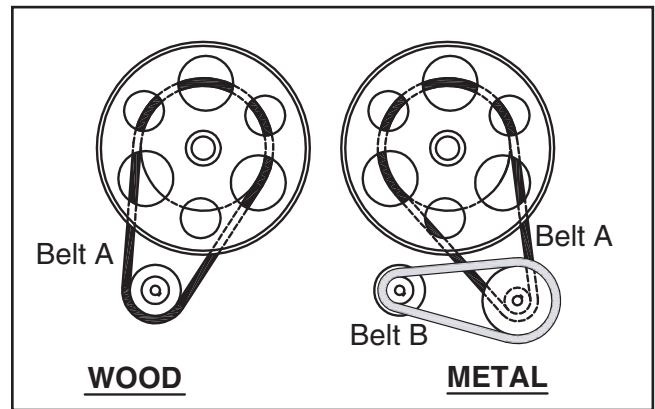

Figure 38. V-belt positions for speed ranges.
4. Refer to **Figure 38** to locate the correct V-belt position for the desired speed range.